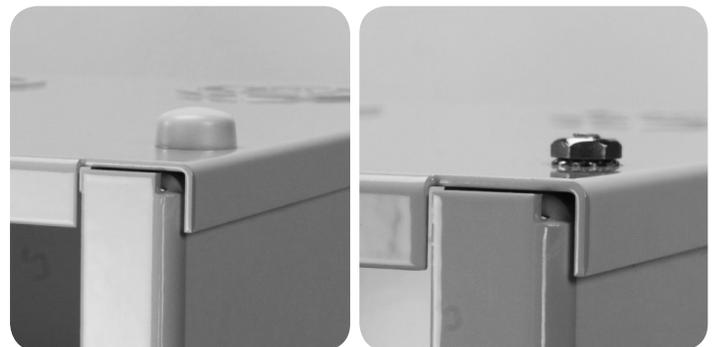

Figure 10
2. Using a standard 216 style tool, or similar, remove the five nuts that secure the top plate to the cabinet body. **(Figure 10)**